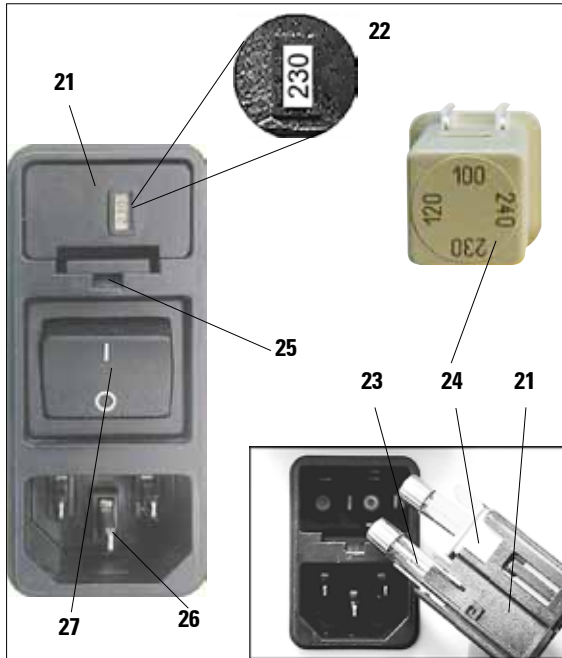

Fig. 12
The voltage selector is located above the main power switch, on the left-rear side of the instrument (Fig. 12). The voltage setting is displayed in the viewing window (22).
- Insert a small screwdriver into the cutout (25) and carefully pry out the insert.
- Remove the voltage selector housing (21) together with the fuses (23). Remove the voltage selector block (24) (white) and insert it again such that the correct local voltage is displayed in the viewing window (22).